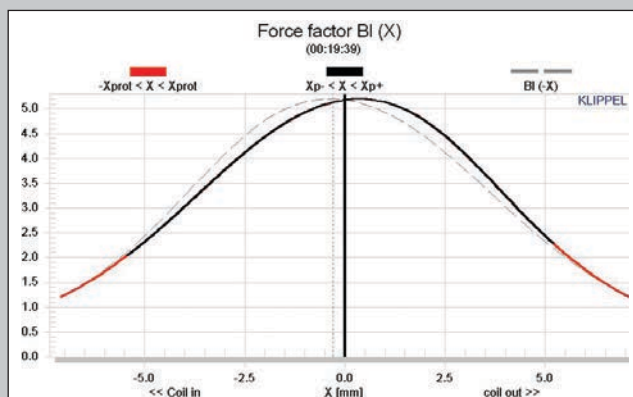
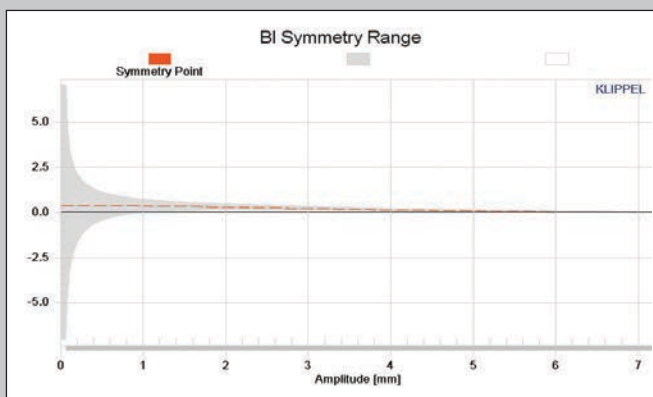
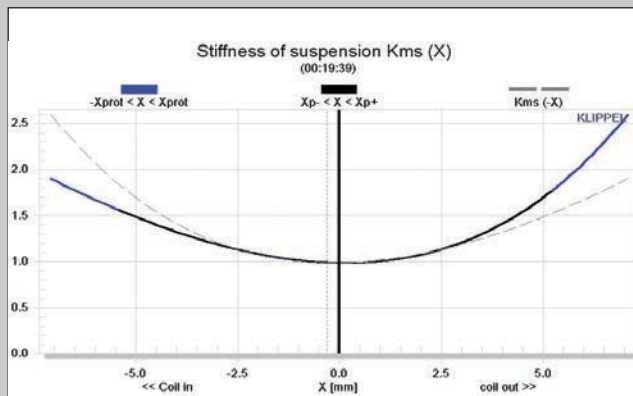
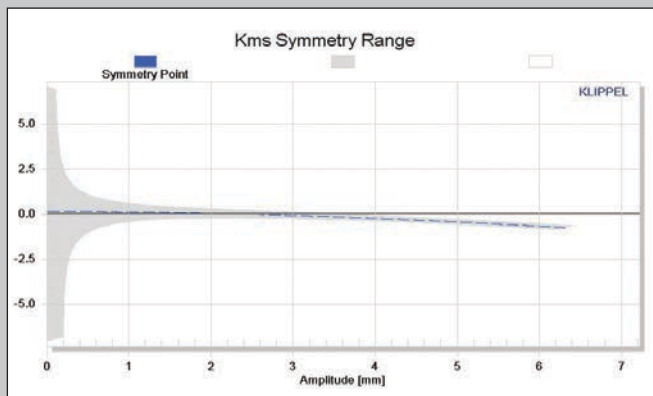

Figure 5: Klippel analyzer BI(X) curve for the 15M/4624G00
Figure 6: Klippel analyzer BI symmetry range curve for the 15M/4624G00
Figure 7: Klippel analyzer mechanical stiffness of suspension $K_{ms}(X)$ curve for the Scan-Speak 15M/4625G00
Figure 8: Klippel analyzer K_{ms} symmetry range curve for the Scan-Speak 15M/4625G00
Klippel analysis for the Scan 15M mid-range driver produced the BI(X), Kms(X), BI, and Kms symmetry range plots given in **Figures 5–8**. The BI(X) curve for the 15M (see **Figure 5**) is somewhat narrow and symmetrical, typical of short Xmax drivers, with a trivial coil-out (outward) offset. Looking at the BI symmetry range curve in **Figure 6**, there is a 0.4-mm coil-out (forward) offset that goes to 0.3 mm at the physical Xmax position (1.5 mm for the 15M), so very nice. **Figure 7** and **Figure 8** give the Kms(X) and Kms symmetry range curves for the 5.25" mid-range. The Kms(X) curve is even more symmetrical. Figure 23 shows a 0.15-mm coil-out offset at the rest position that decreases to 0.09 mm at the physical Xmax of the driver. Displacement-limiting numbers calculated by the Klippel analyzer for the Scan-Speak mid-range were XBI @ 82% BI = 2.3 mm and for XC @ 75% Cms minimum was 3.6 mm, which means that for this 5.25" mid-range driver, the BI offset is the most limiting factor for a prescribed distortion level of 10%, but both numbers are significantly beyond Xmax.